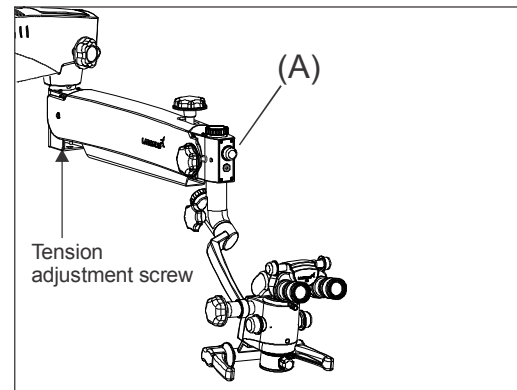

Fig. 13
Refer Fig. 13 to see the exact location of tension adjusting screw.
- 5 The illumination is controlled through the control knob (A), fig. 13. Rotate it clockwise or anti clock wise to achieve desired illumination level Functional setup keep it as minimum.